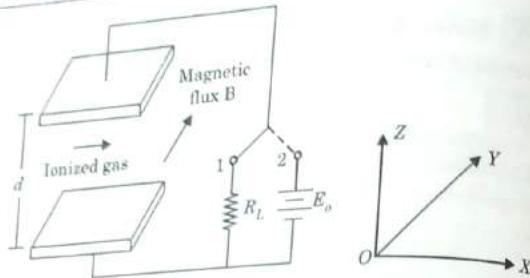

Fig. 3.10.2.
- Consider the Fig. 3.10.2, the movement of gas is in X -direction, magnetic field B is in Y -direction and force on the particle is in Z -direction.